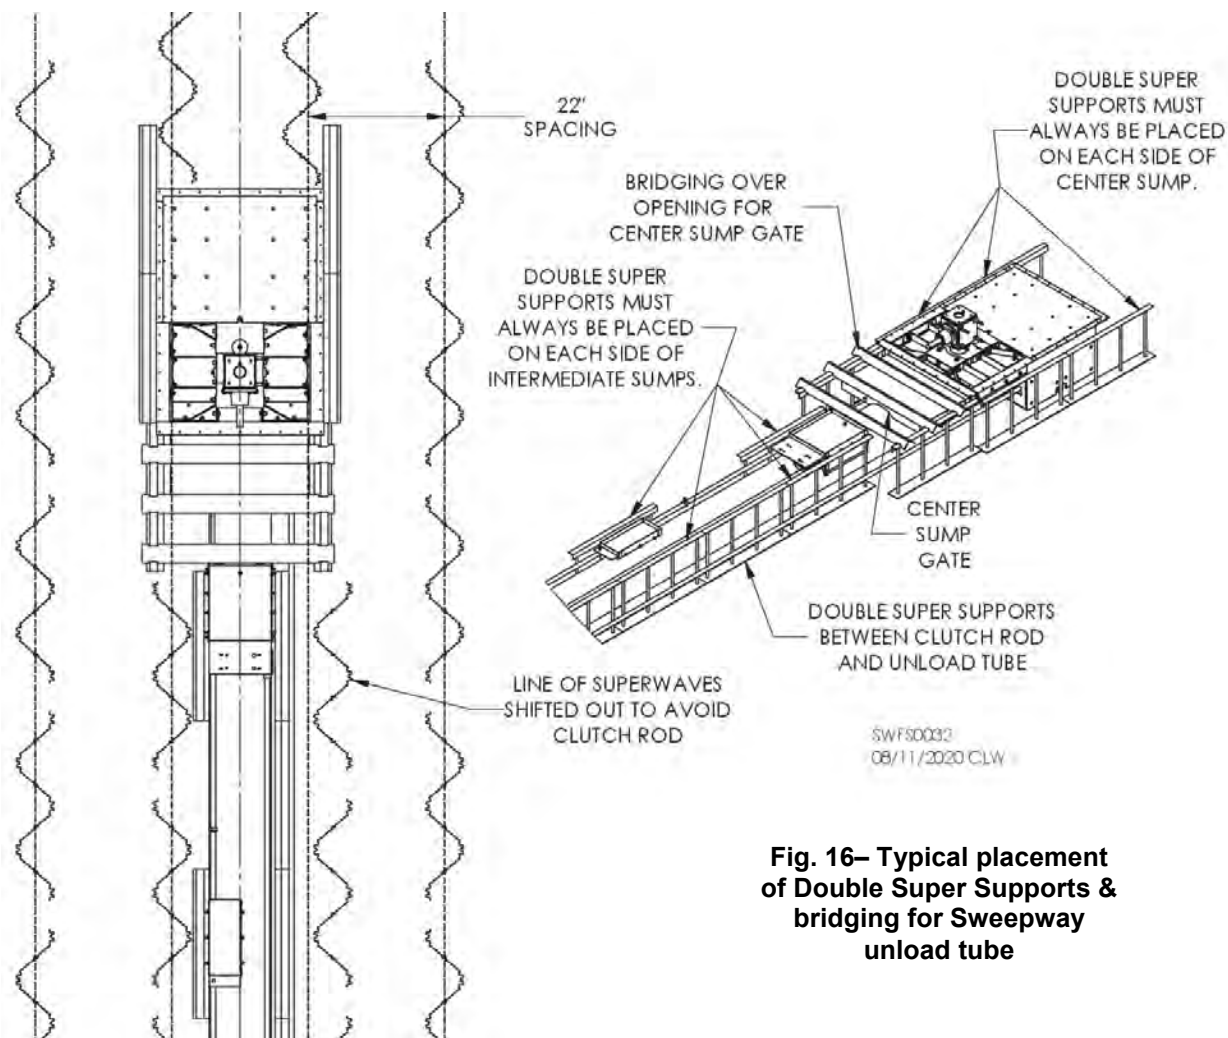

Fig. 16– Typical placement of Double Super Supports & bridging for Sweepway unload tube
- An 8" Sweepway in a 42' dia., 7-ring bin with Hawk Cut flooring and SuperWave supports requires support spacing of 21", according to table on Page 19. Since center sump gate is 23-1/2" wide (See upper table on Page 20), neither SuperWaves nor Double Super Supports can be used at center sump gate opening, so bridging is needed above void for sump gate. Since unload is 8" wide, SuperWaves can be used on one side of unload tube at normal 21" spacing. On clutch rod side, SuperWave would interfere with rod, so Double Super Supports must be used between unload tube and clutch rod. See Fig. 16. **NOTE:** See Fig. 20 for widths of SuperWave, Z-Post and Double Super Supports.
Fig. 16 shows typical use of Double Super Supports for Sweepway unload system with SuperWave Supports at 22" spacing. Drawing also shows bridging over center sump gate.